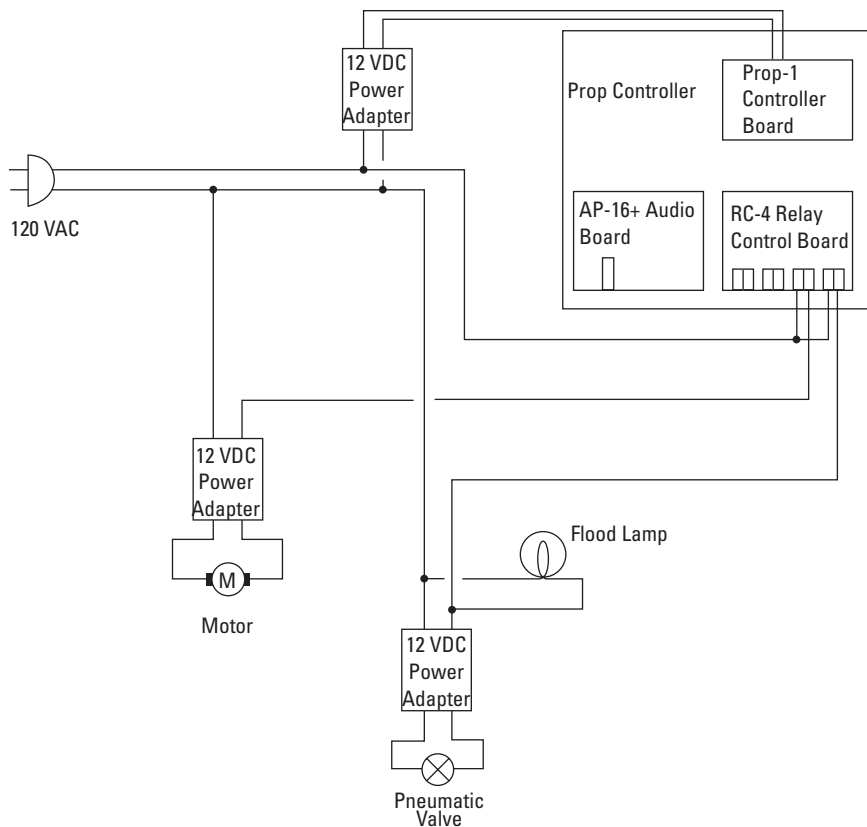

Figure 4-3: Schematic diagram for the jack-in-the-box prop.
- ◆ Figure 4-3 shows a wiring diagram of the prop so you can get an idea of the prop's electrical requirements. As you can see, the prop requires a total of three, 12 VDC power adapters, commonly known as *wall warts*. The first is to power the prop controller, the second provides 12 VDC for the windshield wiper motor, and the third provides 12 VDC for the pneumatic valve.